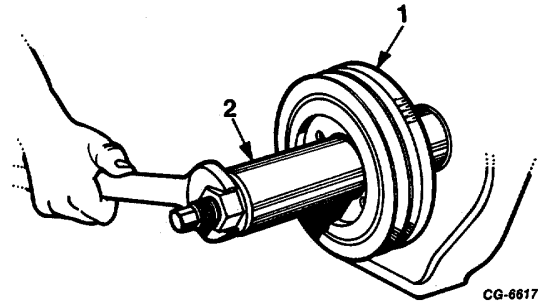

Fig. 155 Installing Crankshaft Pulley
26. Position pulley key in keyway of crankshaft. Lubricate inside diameter of crankshaft pulley with press-fit lubricant. Install crankshaft pulley using installer tool SE-1900 (Figure 155). Install crankshaft pulley nut and flat washer. Tighten pulley nut to specified torque. (See TORQUE CHART).